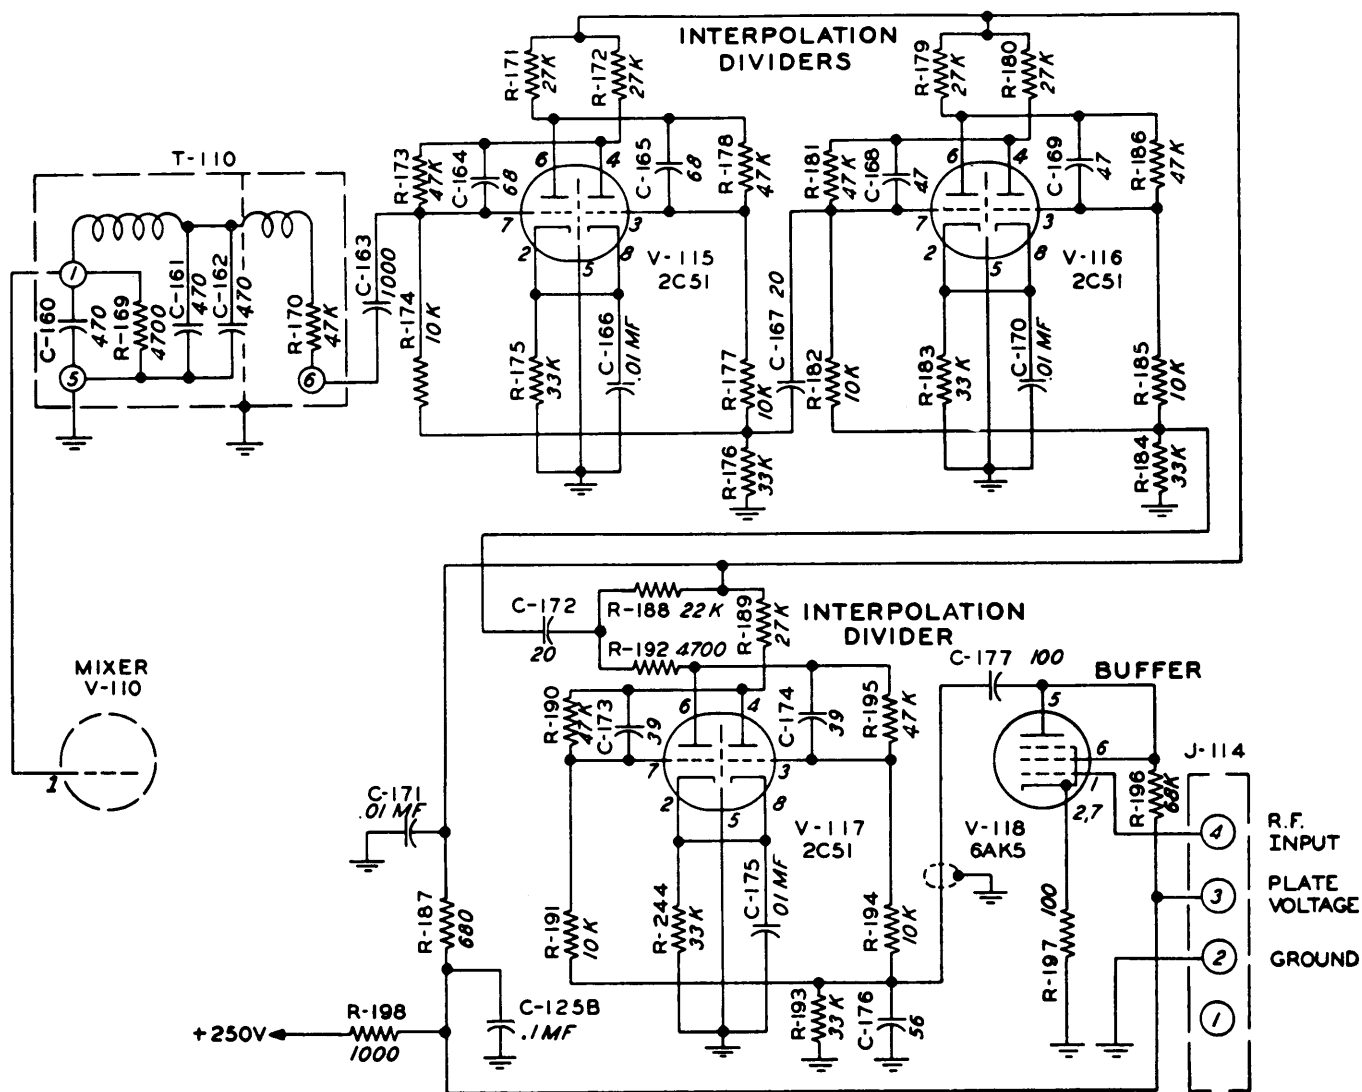

Figure 2-9. Schematic — RF Oscillator O-91A/FRT-5, Interpolation Oscillator Dividers
3. INTERPOLATION DIVIDERS. — (Refer to figure 2-9.) — The interpolation dividers operate in the same way as the crystal dividers. Refer to the paragraph describing crystal dividers for the theory of operation (paragraph 2 a (2) (f), this section).